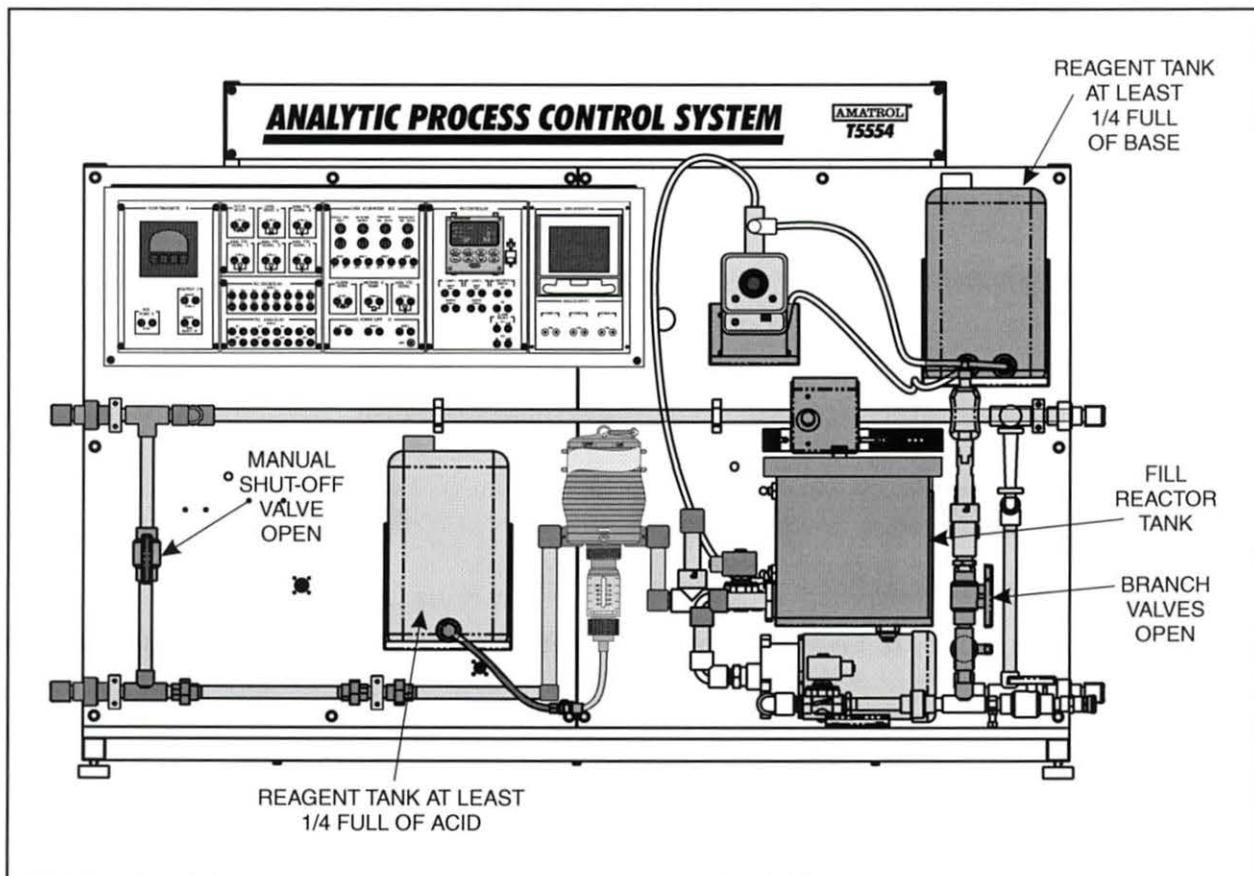

Figure 35. T5554 Setup
- 1. Perform the following substeps to make sure the T5554 Analytical Process Control System is set up as shown in figure 35.